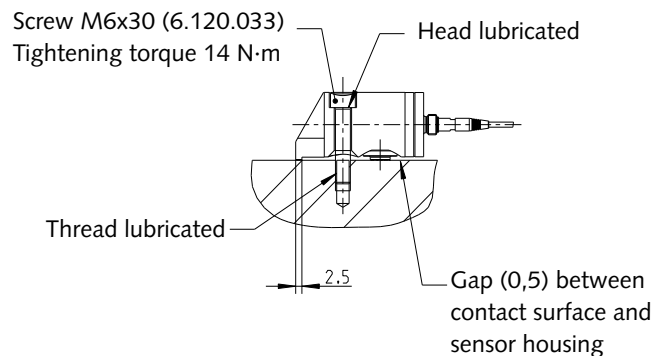

Fig. 5: Mounting with 6-point socket head cap screw
- The sensor is secured with a single screw with pre-greased thread and head bearing surface. Preload this screw with a torque of 14 N·m (Figure 5).